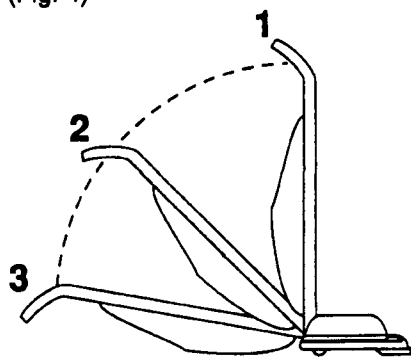

Fig.4
With the tip of your toe, release the handle lock located at the rear left side of the cleaner and move the handle to the desired position. (1) Upright when not in use. (2) Normal for sweeping. (3) Low when cleaning under low furniture. (Fig. 4)